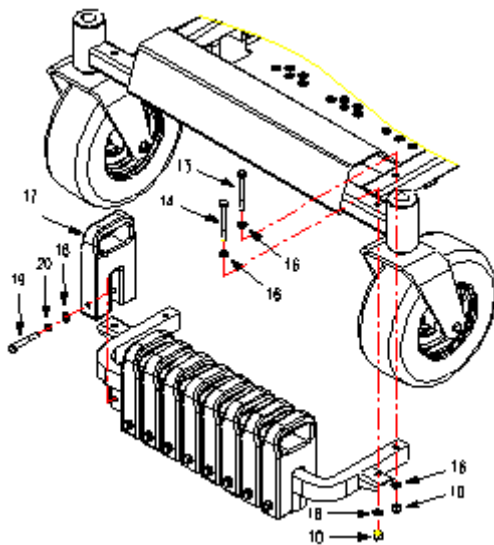

FIG 14
3.9 Installing the Weight Frame (FIG 14)